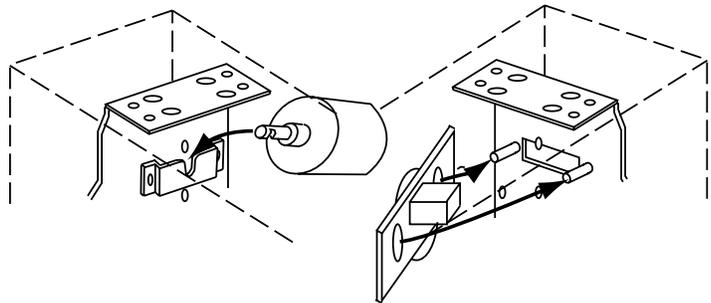

Figure 6
- ① Place operator end of upper roller onto its bracket, then slide notched pin on other end into slot on bracket. Secure operator end with retainer pins, and secure pin end with retainer clip (see Fig. 6).